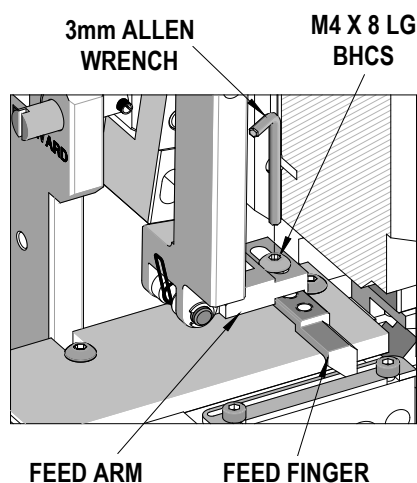

Figure 2-8B
5. Loosen the M4 BHCS located on the feed arm and slide the feed finger to the desired position. See Figure 2-8B.